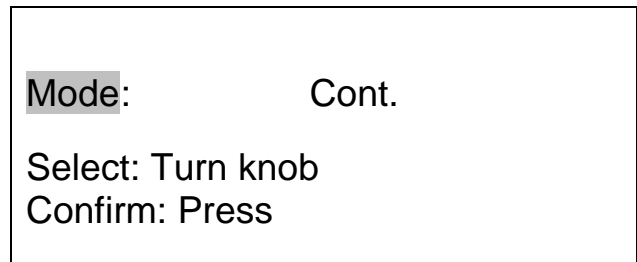

Fig. 34
- In the submenu "Mode" select the function "Cont."(fig. 34) via the knob (fig. 31.1).